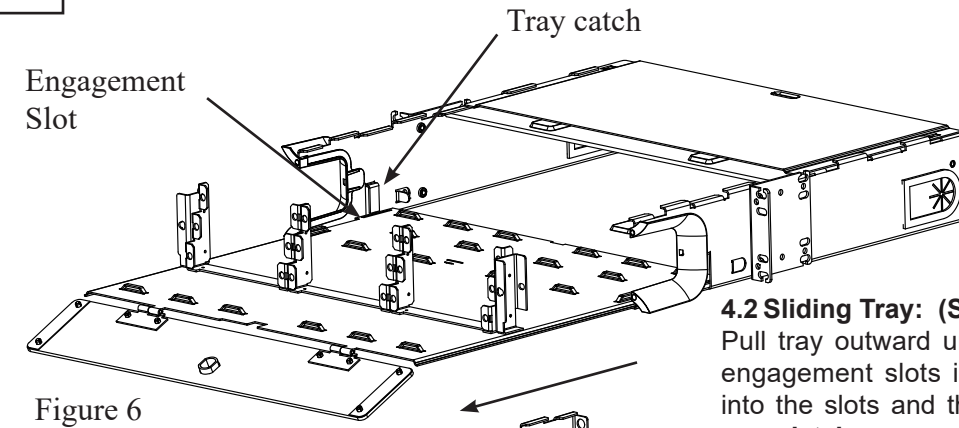

Figure 6
4.2 Sliding Tray: (See Figure 6)